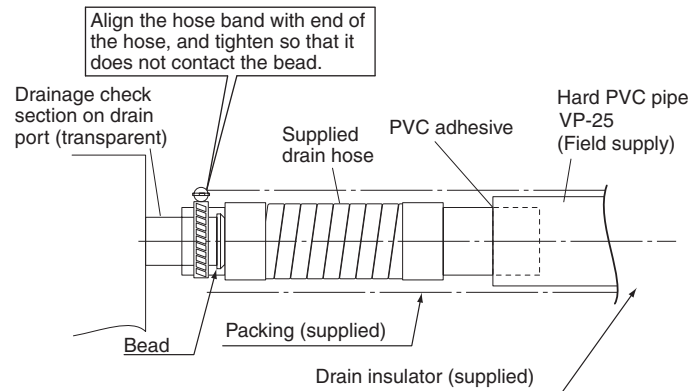

Fig. 3-62
- (1) Prepare standard hard PVC pipe (O.D. 1-1/4") for the drain and use the supplied drain hose and hose band to prevent water leaks. The PVC pipe must be purchased separately. The unit's transparent drain port allows you to check drainage. (Fig. 3-62)
- Tighten the hose clamps so their locking nuts face upward. (Fig. 3-62)